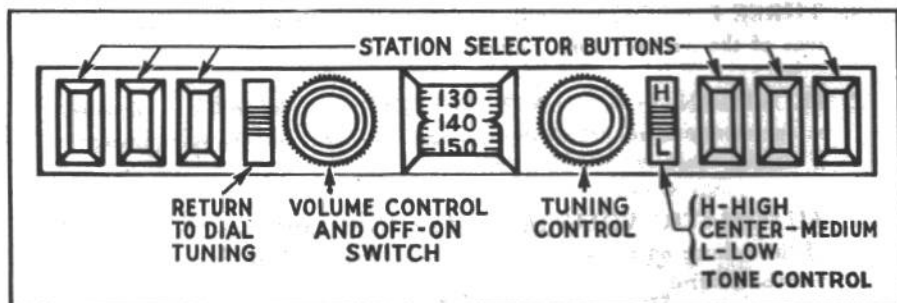

FIGURE 1
After stations have been tuned in by the automatic push buttons, it will be necessary to push the "RETURN TO DIAL TUNING" button before stations can be selected with the Manual Tuning knob. (See Figure 1). Hold the button down until the mechanism has changed to dial tuning. Then tune in the desired stations with the tuning control and the broadcast stations will be received as indicated on the dial scale.
As the tone varies, depending on the type of program tuned in, it is desirable to have an adjustment which permits the operator to adjust the tone to the point most pleasing for the particular program. The *Tone Control* provides this adjustment. The small lever on the right side of the tuning knob when moved up or down will give a range of tone response from Brilliant in the "H-high" position, to deep Bass in the "L-low" position. (See Figure 1).
6. Push in the small button (See Figure 1) marked "RETURN TO DIAL TUNING" until the mechanism stops and the Receiver is operating with the conventional tuning knob. Place the tone lever in the "H-high" position.